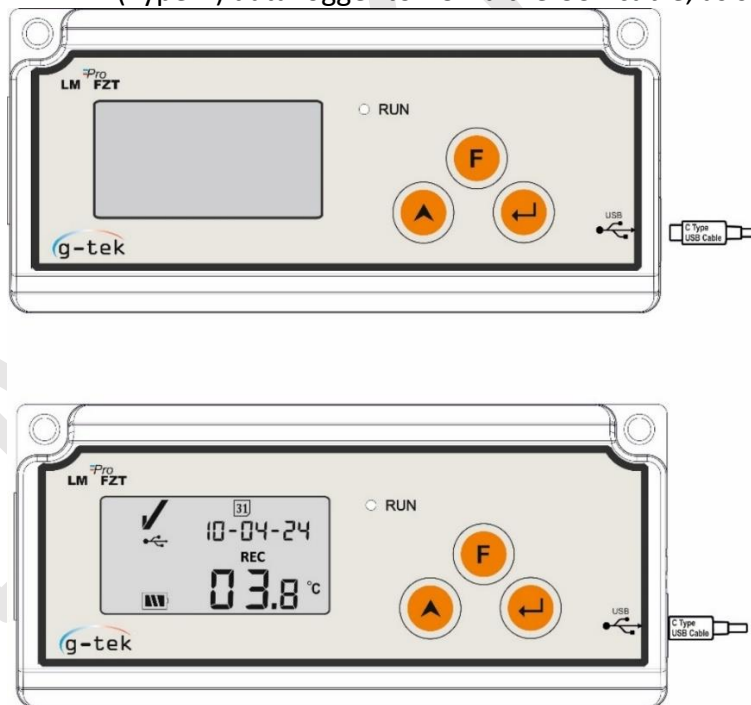

Figure 20 Micro USB Attachment
- Connect the LM^{Pro} FZT (Type-1) data logger to PC via the USB cable, as shown in figure 20.